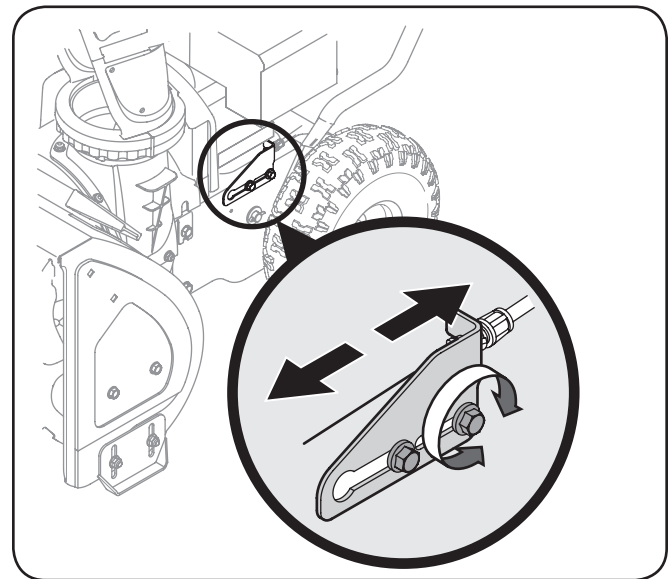

Figure 3-8
- Loosen the rear hex screw on the cable adjustment bracket. See Figure 3-8.